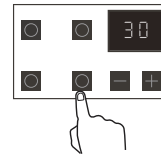

Fig.14
2. Touch the burner button you want to use, the corresponding indicator will light up, and the display will show “00”. (Fig. 14)